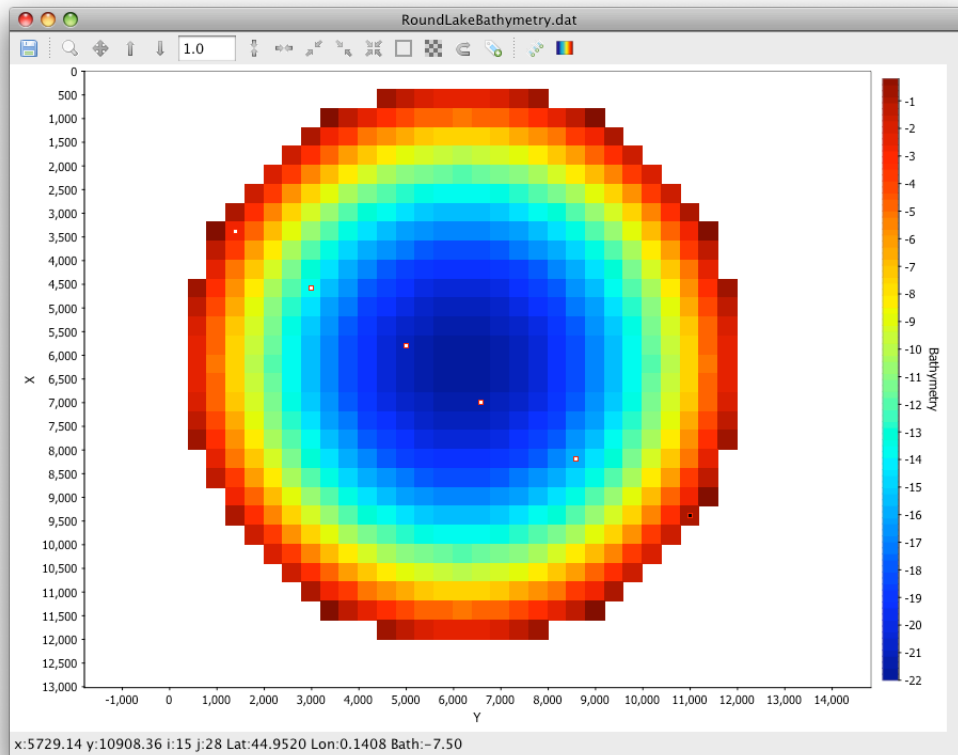
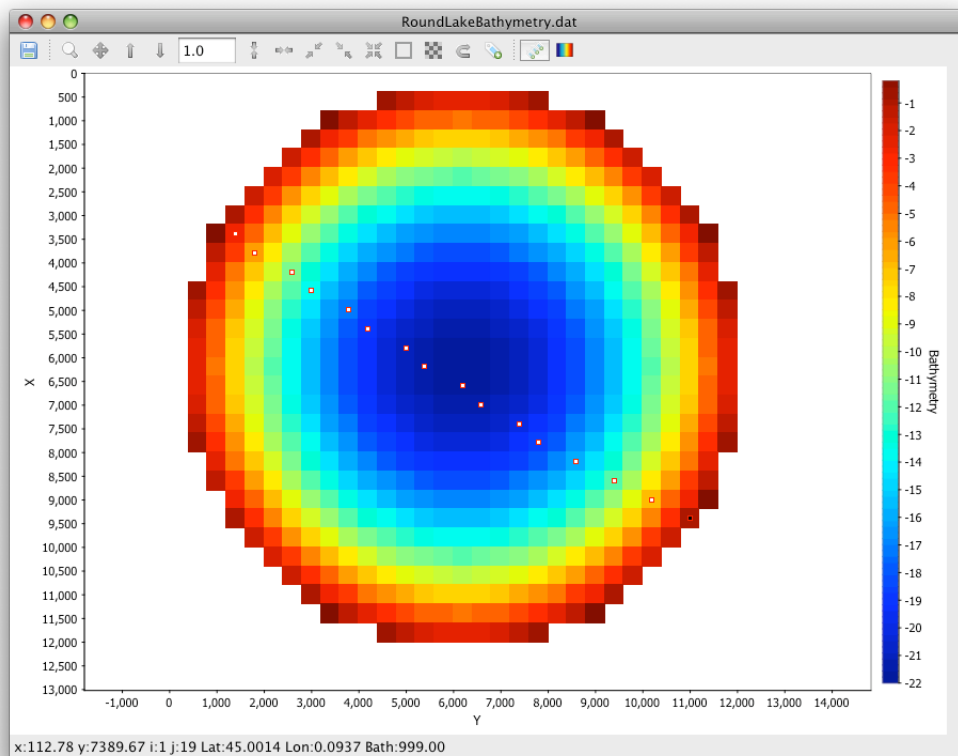
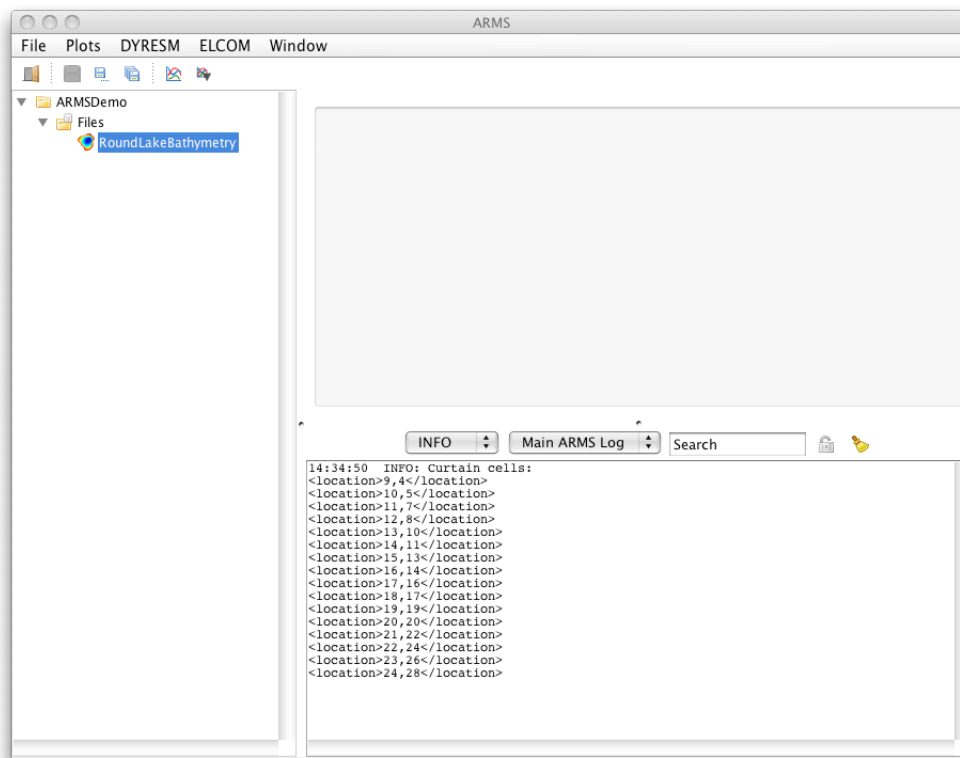

Figure 4.6 Selection of Curtain Cells.
Figure 4.7 Generation of all Curtain Cells.
Figure 4.8 ARMS Log Window showing selected curtain cells for a datablock file.
**Add to curtain:** this tool is used for generating a list of locations for a curtain in an ELCOM datablock file. When a cell is clicked on a small square with a red outline and filled black is drawn in the cell. As additional cells are selected the previous cells are shown with a filled white square (Figure 4.6). The **Show All Curtain Cells** action then attempts to find all cells between the selected points. The cells are displayed in the bathymetry editor window (Figure 4.7) and the location of all cells is shown in the main ARMS Log Window (Figure 4.8). The text in the Log Window can be simply copied from the log and pasted into an ELCOM datablock XML file.